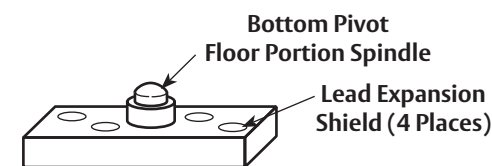

Figure 6
1. Install floor portion of bottom pivot securely to floor using four (4) 1/4-20 x 5/8" FHMS or #14 x 1-1/2" FHWS and provided lead expansion shields. (Figure 6)